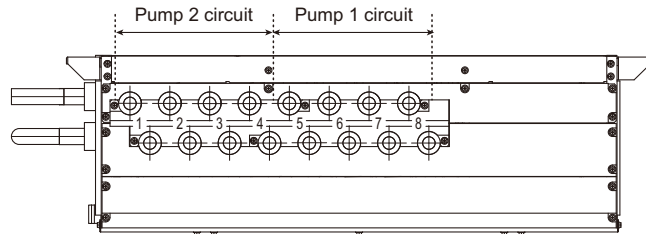

Fig. 11-3-1D
- When the junction pipes are connected to 8 Sub-HBC ports, the branched sides of the junction pipes cannot be connected to the ports "4 and 5" at the same time. (See Fig. 11-3-1D.)